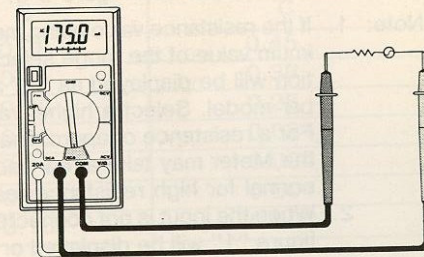

Fig. 5-5 AC Current Measurement
2. Set the function switch to the AC A range to be used and connect the test leads in series with the load under measurement. See Figure 5-5.